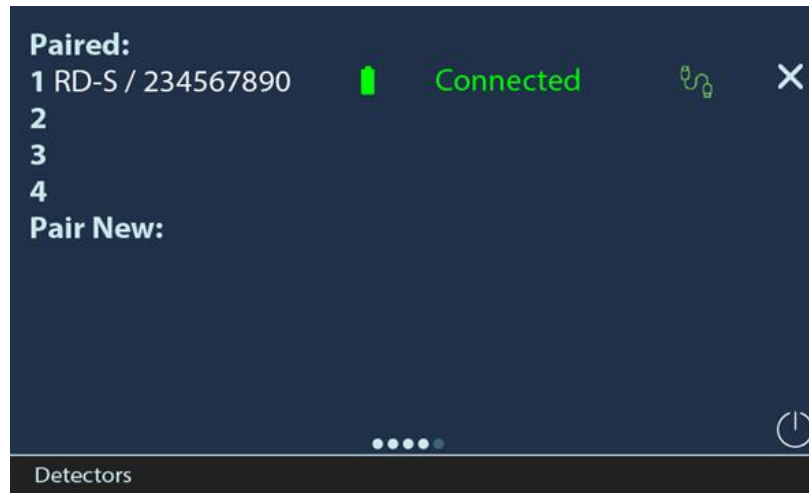

Figure 8: RL1 successfully paired to a detector
- On the RL1 front panel touchscreen, swipe to the *Detectors* page to verify that the RD-S is detected and paired, see Figure 8.